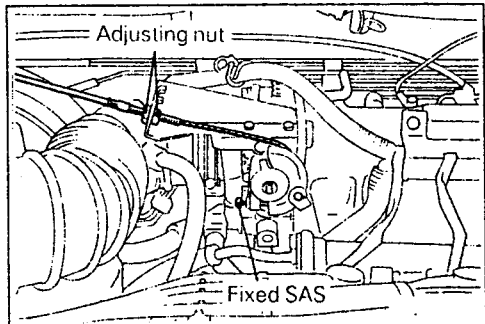

Fig. 4.3 — The attachment of the accelerator cable near its connection to the throttle lever. The two adjusting nuts are moved to adjust the cable.
- Check that the throttle lever is resting against the fixed idle speed stop screw (SAS) shown in Fig. 4.3.